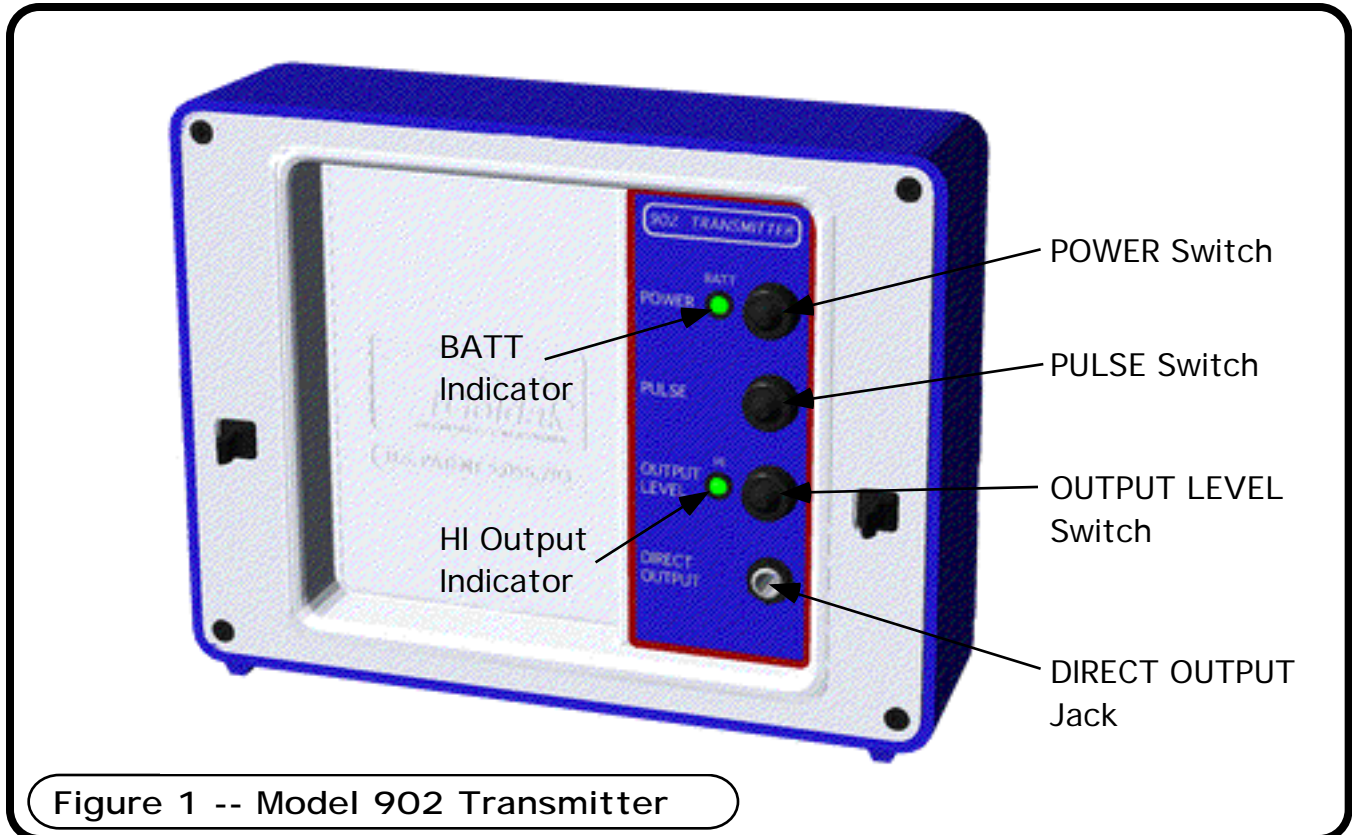

Figure 1 -- Model 902 Transmitter
- 1) **TRANSMITTER.** The transmitter generates a signal which is to be used to "energize" the conductive line to be located. When a line is energized, it radiates the generated signal in a pattern which corresponds to the direction of the line, and which may be used not only to trace the line but also to determine its depth. The signal may be transferred to the line by one of two methods: **inductively** or **conductively**. Inductive transferrance does not require the line to be electrically exposed. Conductive transferrance requires that the transmitter be connected physically via cable to the line to be traced. Section D of this manual, "Operating Procedures," explains these transmission methods in greater detail. A detailed explanation of the transmitter features and controls follows here (refer to **Fig. 1**):